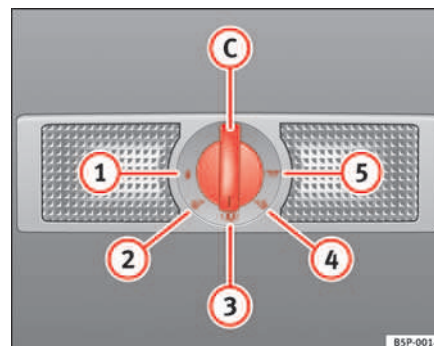

Fig. 83 Detail of the roof:
The switch ⇒ fig. 83 (C) is used to select the following positions:
In switch position ⇒ fig. 83 (1), the interior and reading lights are switched off.